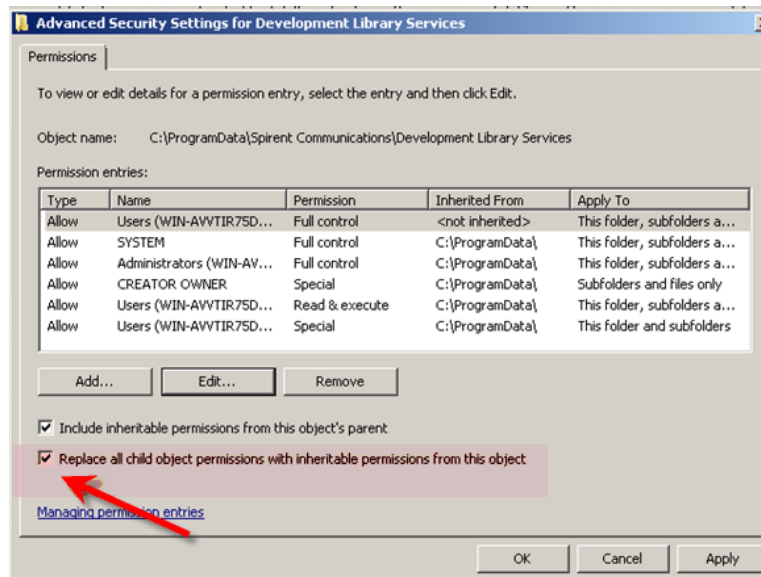

Figure 2-20: Advanced Security Settings Window
8. In the *Advanced Security Settings* window, select the **Replace all child object permissions with inheritable permission from this object** option, as shown in Figure 2-20. This option applies the change to all subfolders and files.